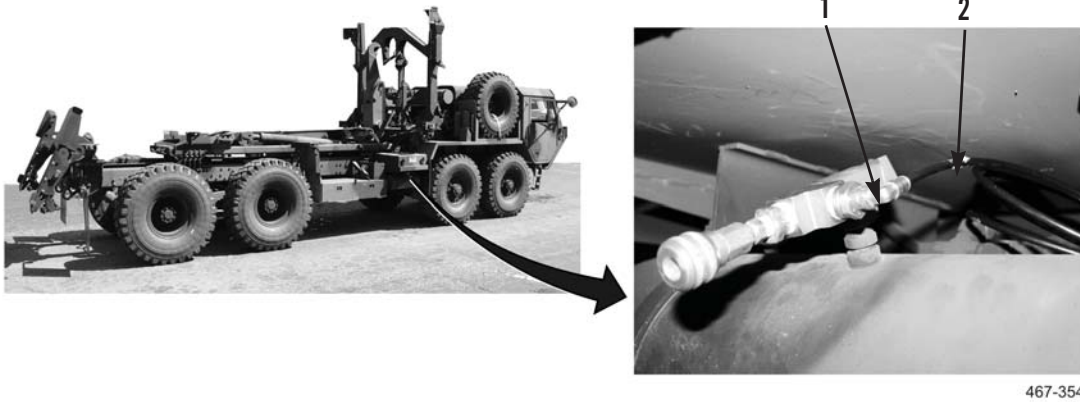

Figure 2. HEMTT M1120 Air Tank Hose Removal.
3. Disconnect pneumatic hose (Figure 2, Item 2) from press-lock fitting (Figure 2, Item 1).